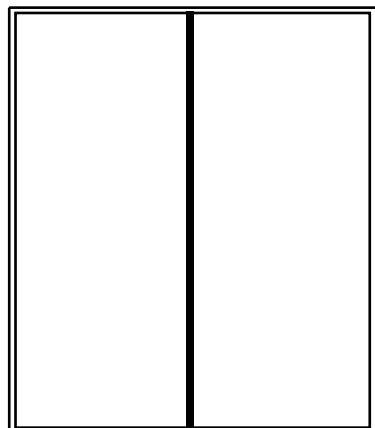

Figure 3
*An astragal is a metallic strip running the length of the door opposite the hinges. Astragals are commonly used to cover the opening between double doors, and act as a smoke or weather barrier (see Figure 3).